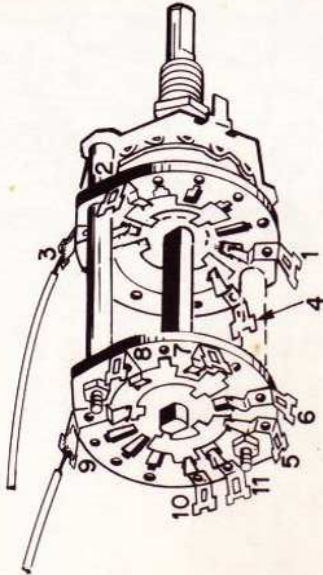

FIGURE 10
SEE FIGURE 10
- White wire with brown tracer. Solder one end to terminal 3 of TS-2 (3 wires). Route wire as shown under C30 to terminal 4 of SW2, and solder. See Figure 10 for location of terminal 4.